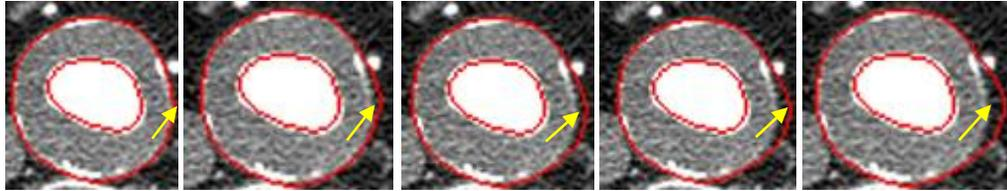

**Figure 13** - Expanding deformed contour in area of mouse cursor by wheeling backward
**Partial native correction** – where user should position the mouse cursor in region of contour that should be corrected. After positioning wheeling **backward** will cause contour **expanding** in that region **Figure 13**, and wheeling **forward** will cause contour **contracting** **Figure 14**. Contour will expand until reach the boundaries on the image. This kind of correction depends of the image topology.